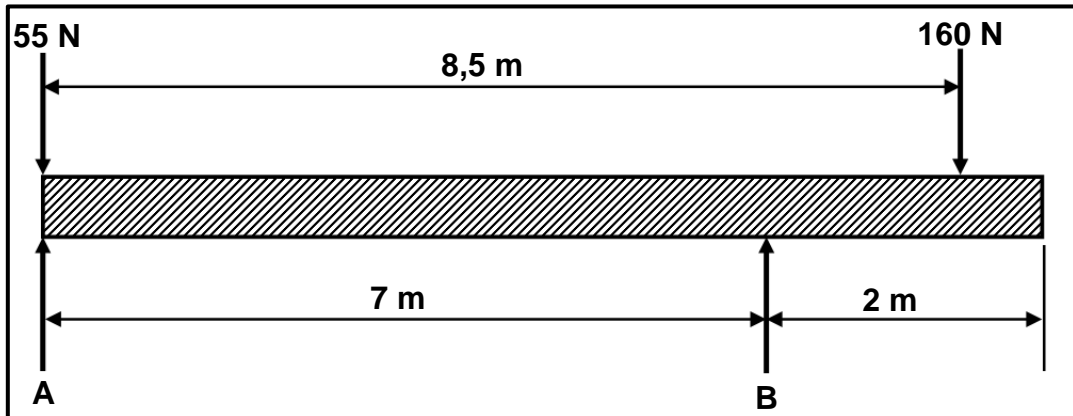

FIGURE 8.2
8.2 FIGURE 8.2 below shows a uniform beam that is supported by two vertical supports, **A** and **B**. TWO vertical point loads are exerted onto the beam. Calculate the magnitude of the reaction forces in **A** and **B**.